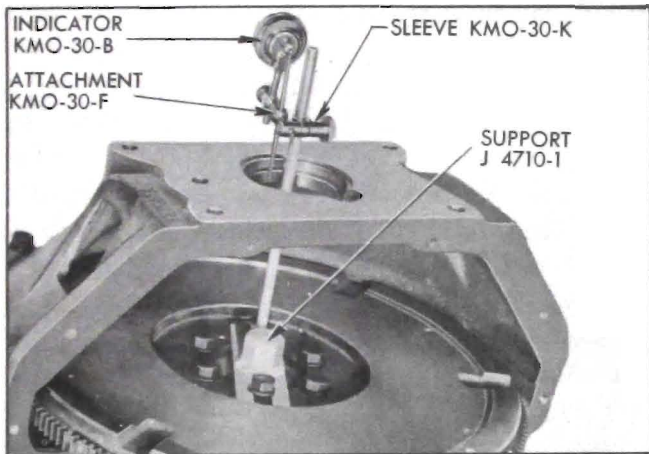

Figure 4-14—Checking Alignment of Housing at Pilot Hole
2. Attach Indicator Support J 4710-1 to flywheel with two flywheel bolts. Mount Dial Indicator KMO 30-B and Hole Attachment KMO 30-F on pilot with Sleeve KMO 30-K. Adjust ball end of hole attachment to bear against side of pilot hole in flywheel housing. See figure 4-14.
4. Install dial indicator as shown in figure 4-14, and check run-out at pilot hole in housing.